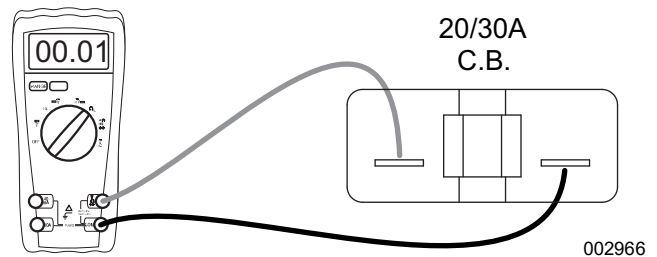

Figure 3-2. 20/30 Amp Breaker Test Points
3. See Figure 3-2. With the generator shut down, connect one meter test lead to one terminal of the breaker and the other meter test lead to the other terminal.